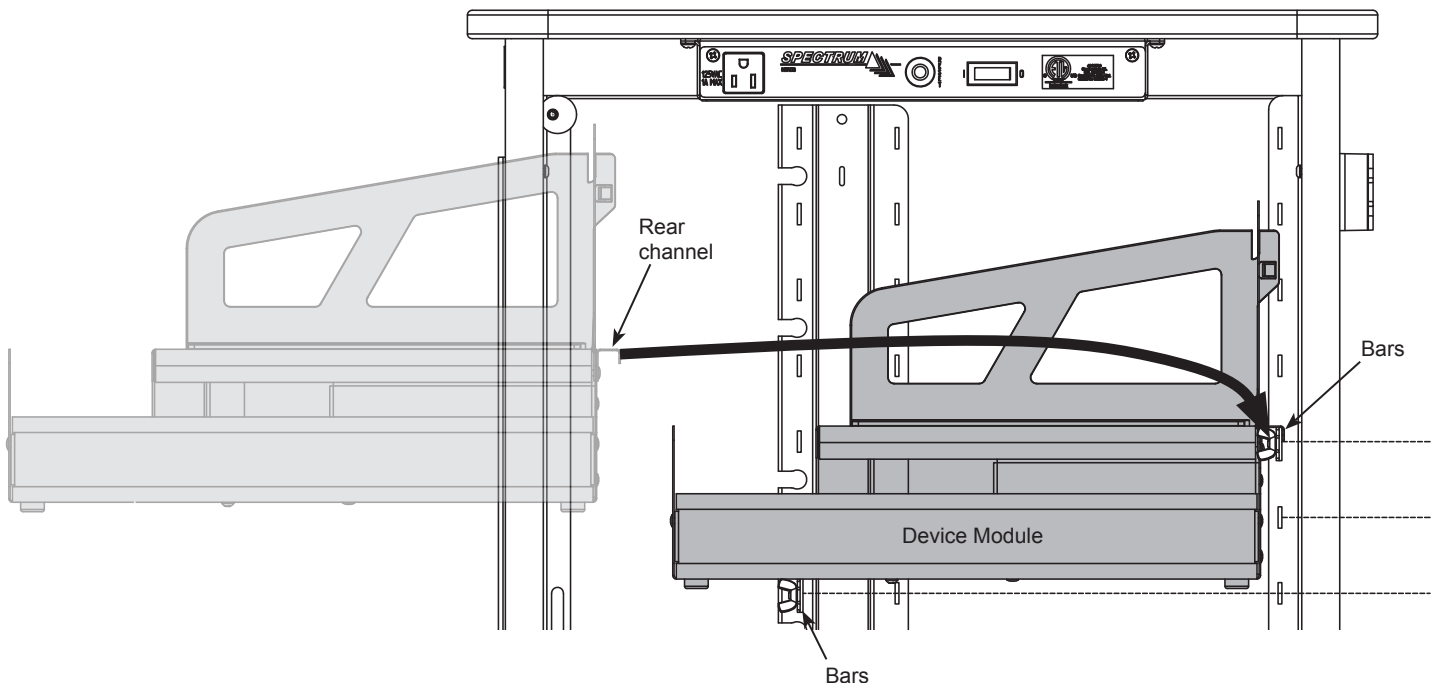

Figure 3
1. Carefully set the empty module onto both sets of bars. Be sure the rear channel "hooks" the rear set of bars fully. **Figure 3.**